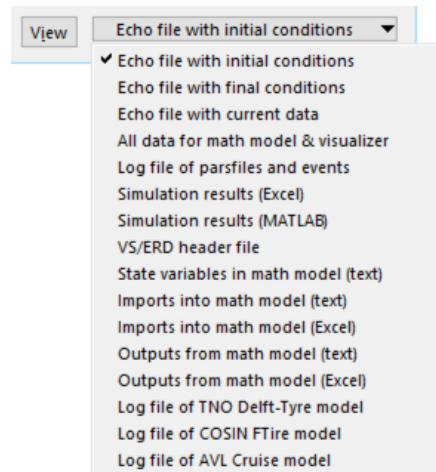

Figure 16. Drop-down list with files associated with current run that can be viewed.
- 22 **View** button and file type drop-down list. Click this button to view more information associated with the math model as configured for this simulation. The drop-down list has options to select different files that show how the model was set up for the simulation (Figure 16, for CarSim).